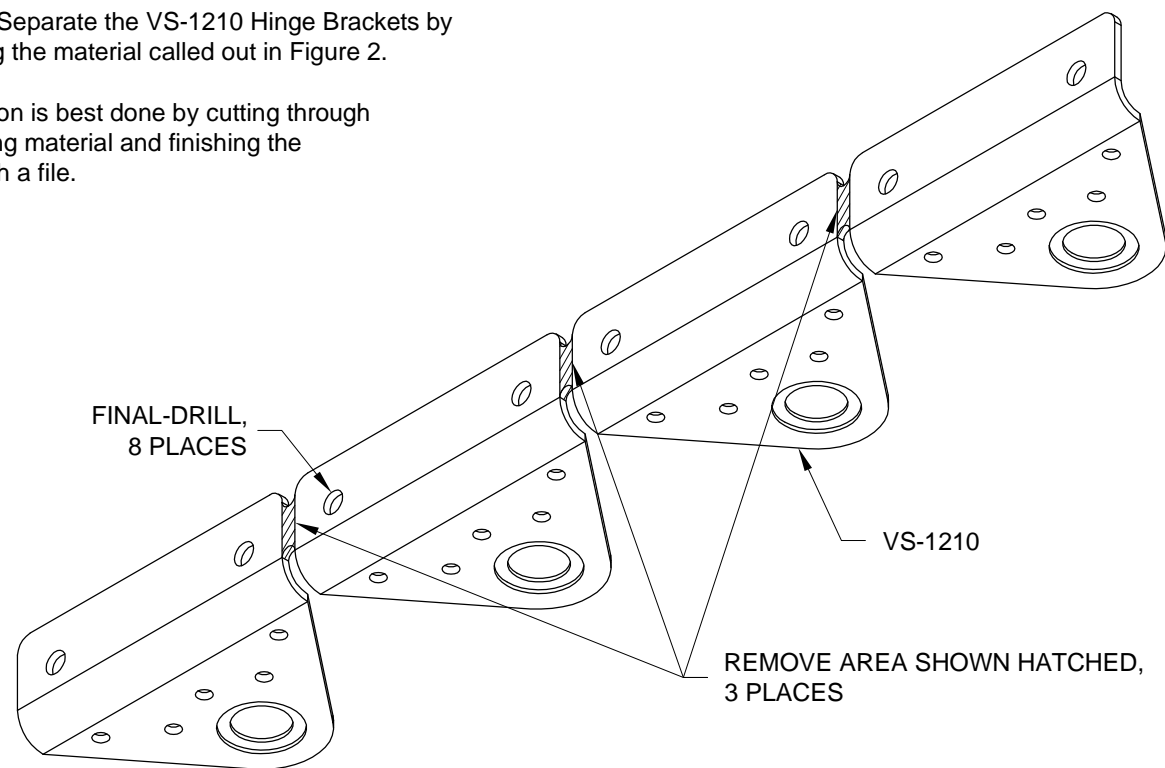

FIGURE 2:
Step 5: Final-Drill #12 the 3/16 holes in the flange of the VS-1210 Hinge Brackets called out in Figure 2.
Step 6: Separate the VS-1210 Hinge Brackets by removing the material called out in Figure 2.